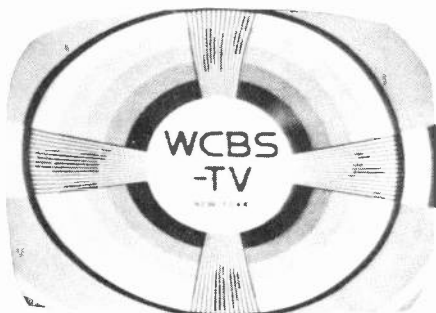

Fig. 1-L. *Test pattern shows left-hand stretch.*
**SYMPTOMS:** Picture compressed in center, left side stretched. See Fig. 1-L.